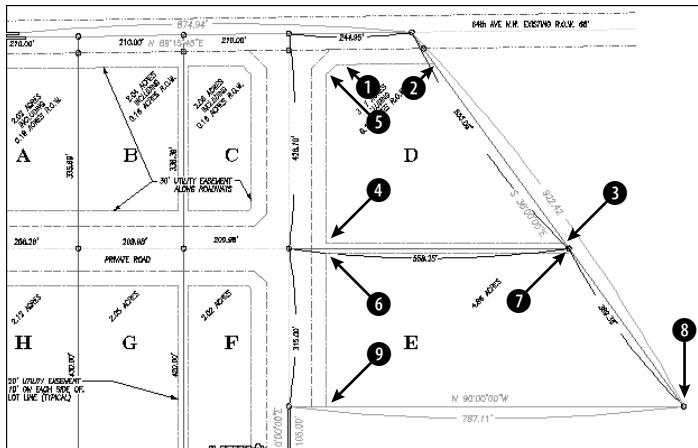

Figure 12-9: The AREA command can calculate the area of parcels D and E.
2. Use ZOOM Window to zoom in on the parcels of land labeled D and E, as shown in Figure 12-9. OSNAP should be on with a running object snap for endpoint.
4. At the Specify first corner point or [Object/Add/Subtract]: prompt, right-click and choose Add to start Add mode. At the Specify first corner point or [Object/Subtract]: prompt, pick ❶ in Figure 12-9 by using the Endpoint running
5. At the Specify first corner point or [Object/Subtract]: prompt, pick 6 in Figure 12-9. At the Specify next corner point or press ENTER for total (ADD mode): prompt, pick 7, 8, and 9. Press Enter to complete point selection. The command line reports the area and perimeter of the second area and adds the two areas together to give you the total area. Press Enter again to end the command.